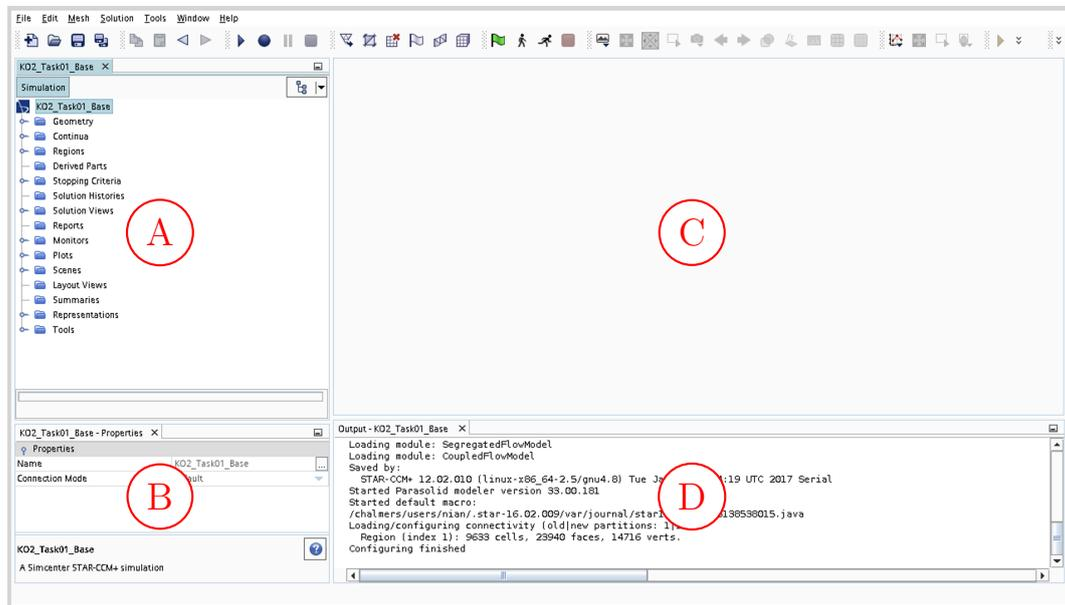

Figure 5.1: Star-CCM+ graphic user interface
Figure 5.1 shows the user interface of Star-CCM+. In Star-CCM+ the CFD workflow is mostly represented in the tree structured menu to the left in the screen (A). Each node in the tree
Now the file is loaded and you should see something like what is shown in Figure 5.1
- (b) In the properties window (field B in Figure 5.1), choose one of your newly created line probes in the **Parts** menu.